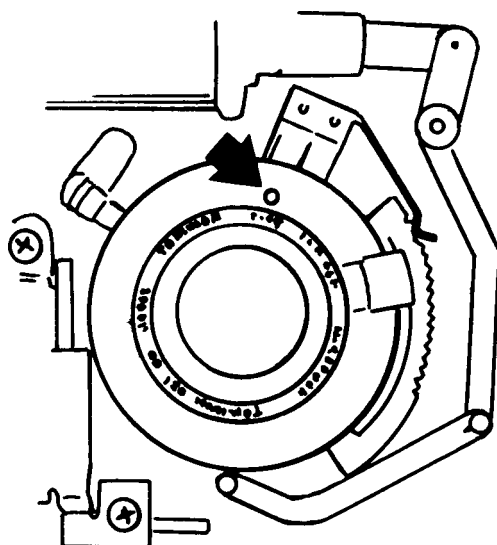

Figure 4-33 Holding Shutter Blades Open
- 2.8 As you depress the Face Fire Button S1, insert the end of a large paper clip in the hole in the Shutter, to hold the blades open (see illustration). (Fig. 4-33)